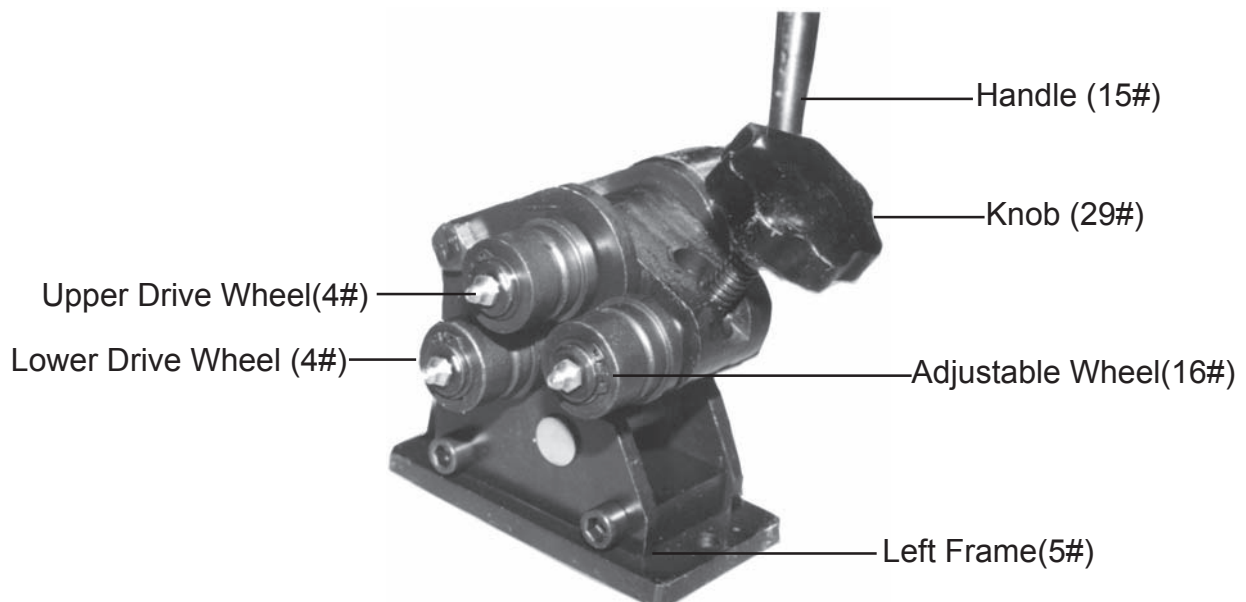

Figure 2
2. Move the Adjustable Wheel (16#) up or down (as desired) by turning the Knob (29#) see **Figure 2**.
6. Insert the stock between the Upper Drive Wheel (4#) and between both the Adjustable Wheel (16#) and lower Drive Wheel (4#) . see **Figure 2**.